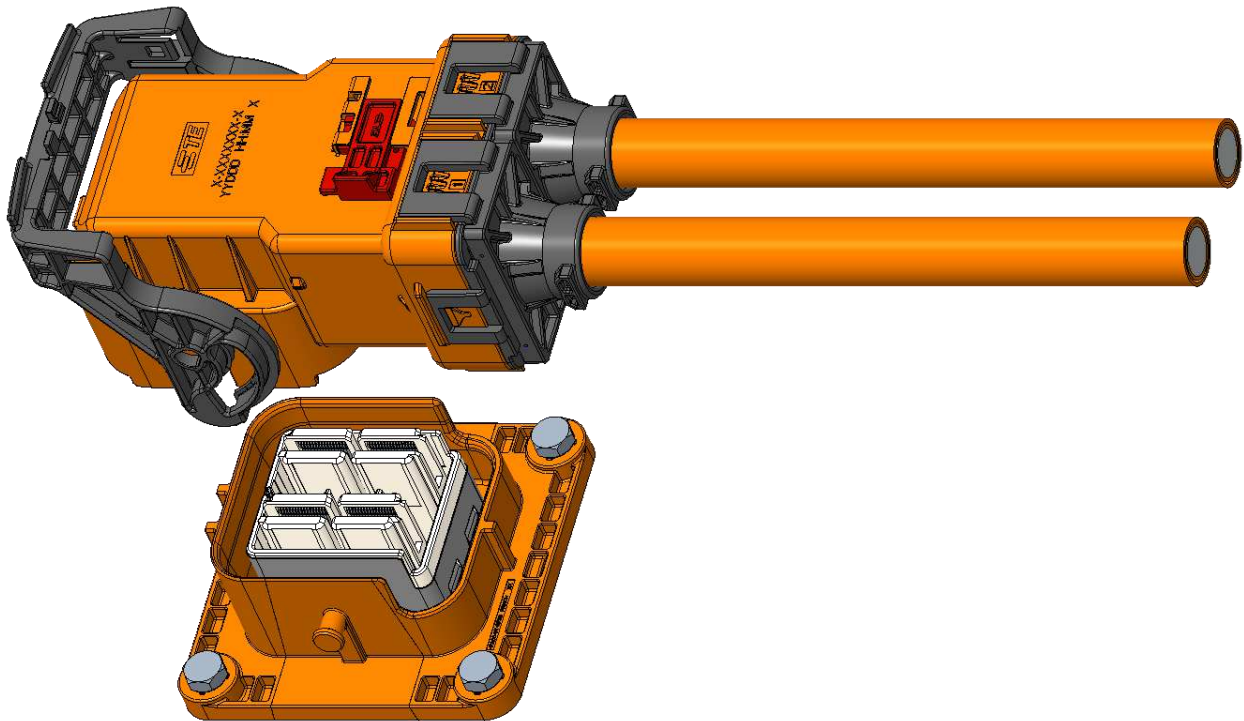

Figure 18: Plug and Header Alignment
2. Align the plug and header connectors as shown in Figure 18.